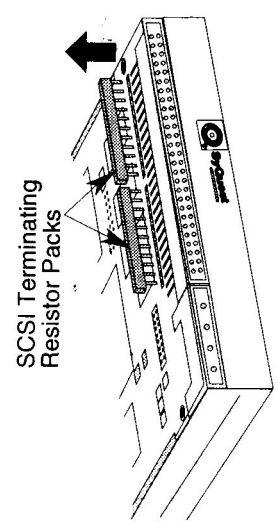

Figure 4. Locating and Removing the SCSI Terminating Resistor Packs
4. Determine whether you need the two SCSI terminating resistor packs that have been installed in your cartridge disk drive. (Figure 4 shows the location of the terminating resistor packs.)
- If the SQ3105S/SQ3270S is not the last or only SCSI device connected to the HBA, remove the SCSI terminating resistor packs, as shown in Figure 4, and store them in a safe place.